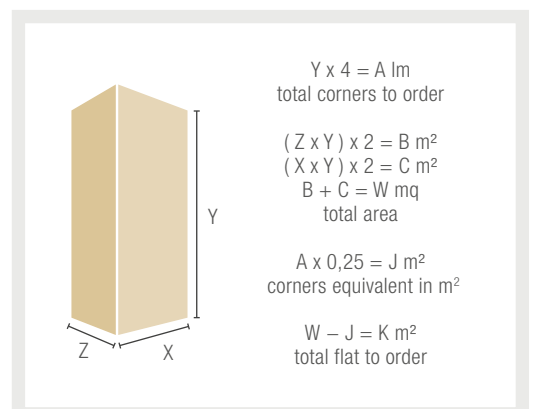

Fig. 06
- Trace the total square metres adding up the lengths of the base and by multiplying them by the column height = total square metres of the work (Fig. 06)